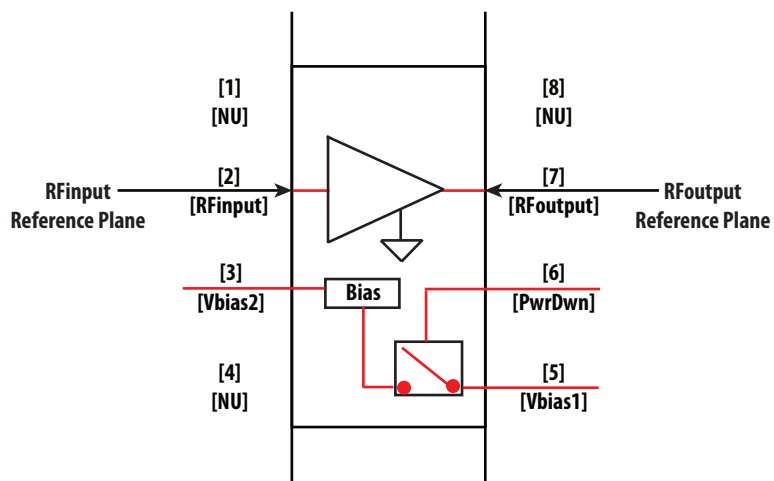

Figure 16. RFinput and RFoutput Reference Plane
2. Measurements are conducted on 0.010 inch thick ROGER 4350. The input reference plane is at the end of the RFin pin and the output reference plane is at the end of the RFout pin as shown in Figure 16.